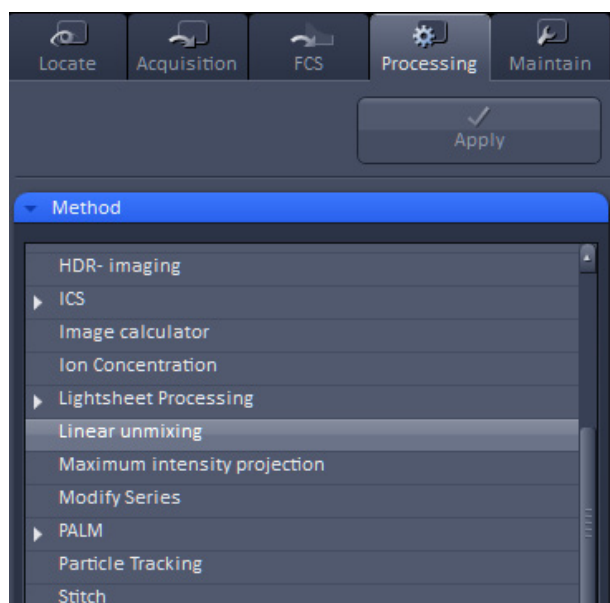

Fig. 409 Processing – Linear unmixing
- To open the **Linear unmixing** tool, click on **Linear unmixing** in the **Processing** tool list under the **Processing** tab (Fig. 409).